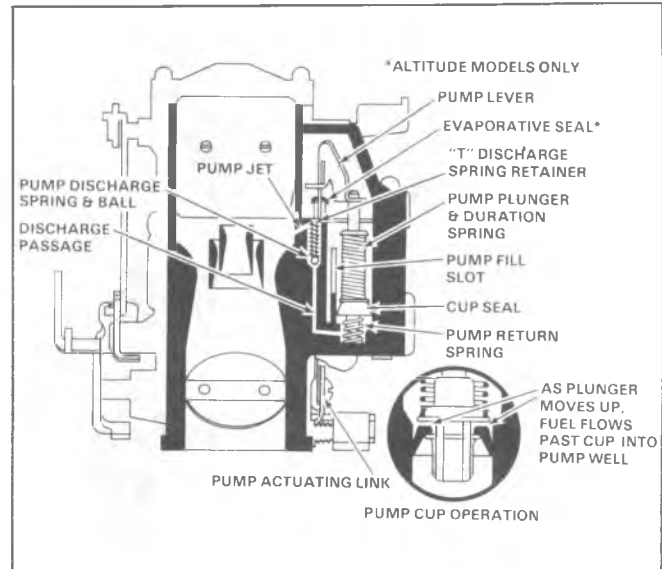

Fig. 6C1-23--Pump Drive Link
6. Install pump ball, spring and "T" into pump discharge hole (Fig. 6C1-20).
12. Install pump plunger assembly into pump well with actuating lever protruding through bottom of bowl casting. Push downward on pump lever and install pump assembly drive link into slot in lower end of shaft. Tang on upper end of link retains link to pump shaft (Fig. 6C1-23).